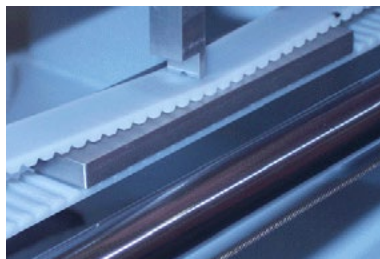

Figure 2 - Checking Force
4. Center the Y-belt tensioning fixture on top of the lower y-belt (see Figure 2).